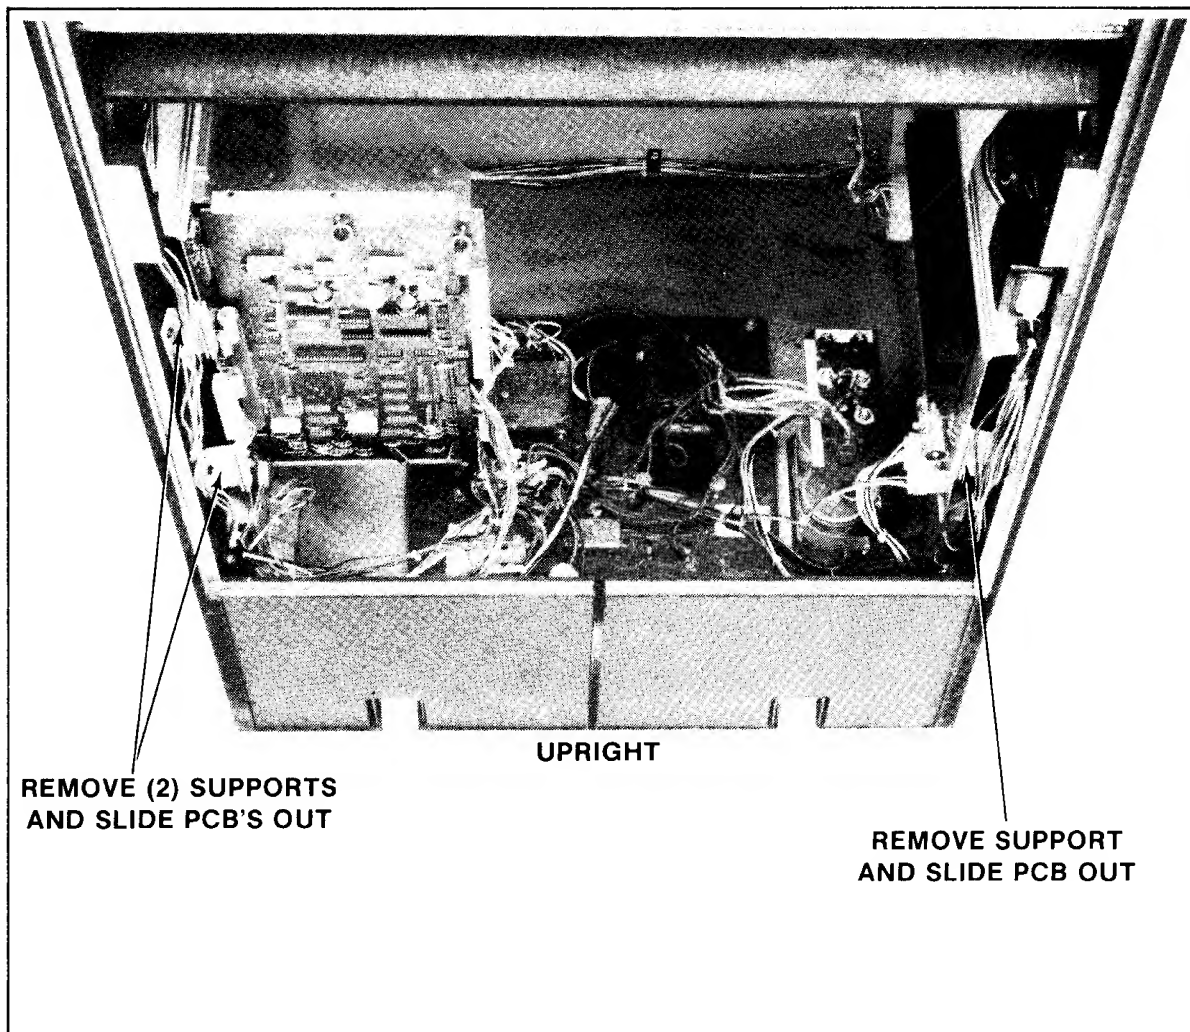

FIGURE 31
1. Upright model — See Figure 31.
- Disconnect the mother board from all its cabling, remove the P.C.B. supports indicated in Figure 31, and slide the mother board out the back of the cabinet.
- Disconnect the linear power supply board from all its cabling, remove the P.C.B. supports indicated in Figure 31, and slide the linear power supply board out the back of the cabinet.